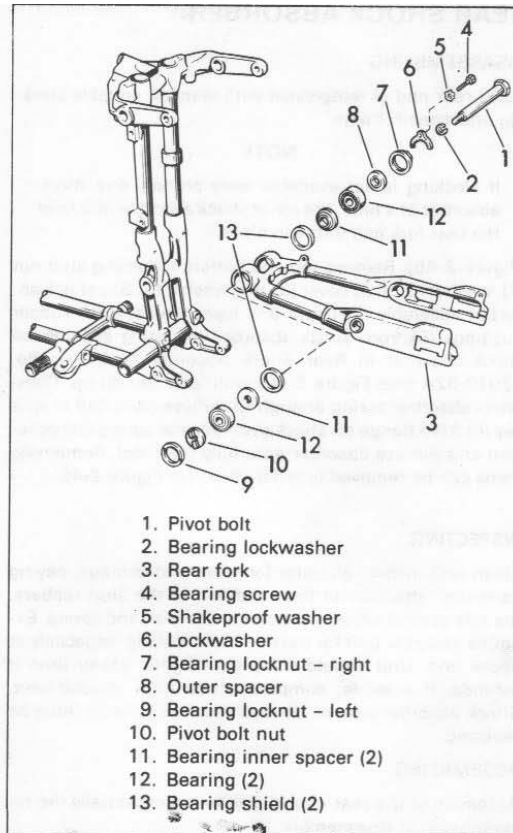

Figure 2-51. Rear Fork - Exploded View
**DISASSEMBLING** (Figure 2-51)
See order of disassembly, Figure 2-51. Remove pivot bolt (1) and lockwasher (2) from rear fork (3). Rear fork can now be disassembled from frame. Remove the following parts: Bearing screw (4), bearing shakeproof washer (5), bearing lockwasher (6), bearing locknut - right (7) and bearing outer spacer (8). With a punch turn out bearing locknut - left (9) and remove pivot bolt nut (10). From inside of fork press or drive out bearing inner spacer (11) and bearing (12), by applying pressure against spacer (11). Press or drive out bearing shields (13) from fork inner side.
#### ASSEMBLING (Figure 2-51)